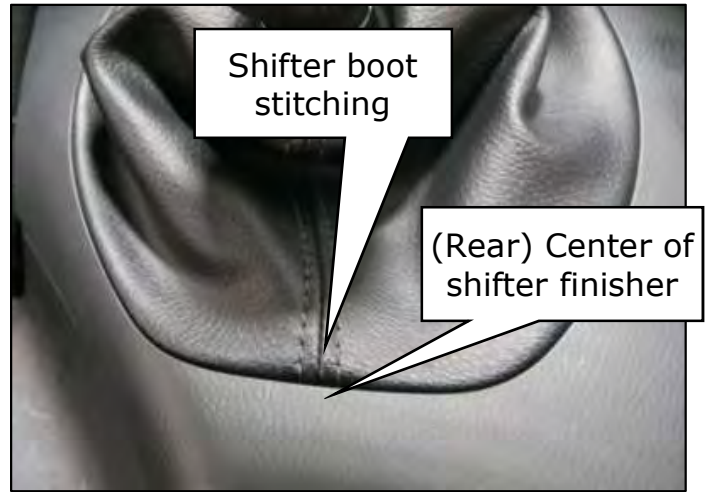

Figure 121
- Position the trim ring/shifter boot over the shifter finisher (Figure 121)
- Verify the shifter boot is aligned with the stitching centered on the front and the rear of the shifter finisher (Figure 121)